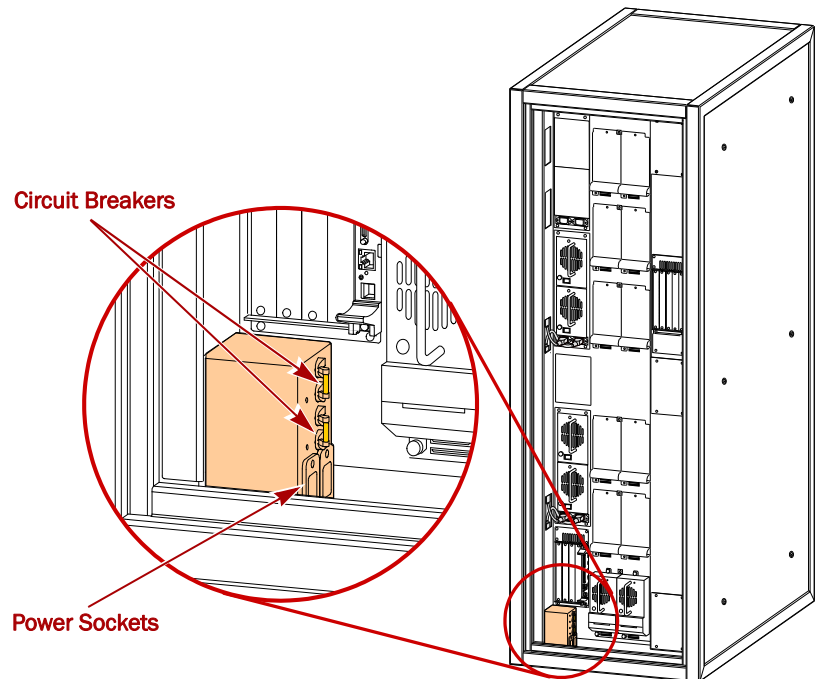

Figure 1-3: Circuit Breaker and Power Cord Locations
1. At the rear, move the library circuit breakers to the **OFF** ("O") position (Figure 1-3).